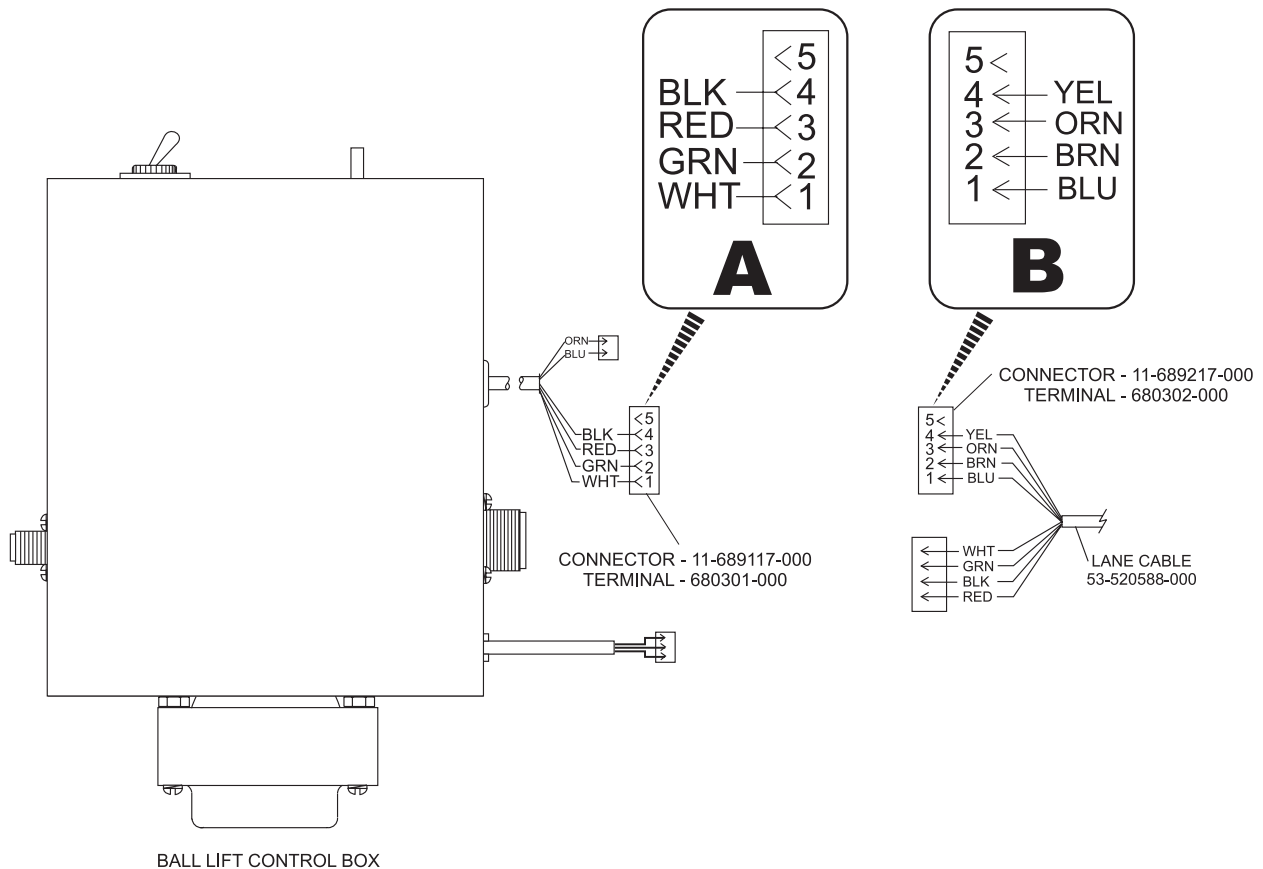

Figure 8
4. Install terminals, (P/N 11-680301-000) on the cable from the ball lift control box. Refer to *Figure 8, Inset A*.
5. Install terminals, (P/N 11-680302-000) on the lane cable, 53-520588-000. Refer to *Figure 8, Inset B*.
6. Install the connector (P/N 11-689117-000), on the cable from the ball lift control box. Refer to *Figure 8, Inset A*. Pin the connector as follows:
7. Install the connector (P/N 11-689217-000), on the cable from the ball lift control box. Refer to *Figure 8, Inset B*. Pin the connector as follows: